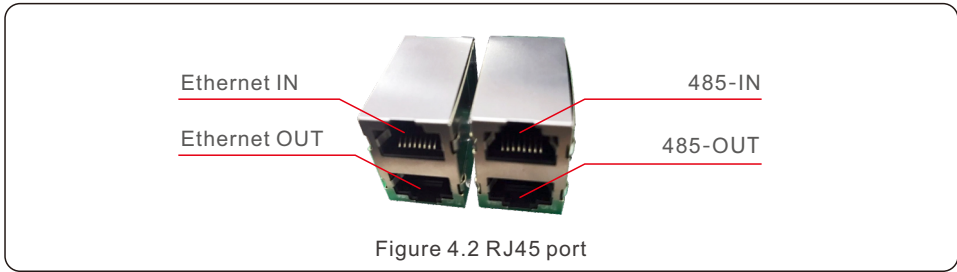

Figure 4.2 RJ45 port
1. RS-485 communication through RJ45 connector (See figure 4.2).